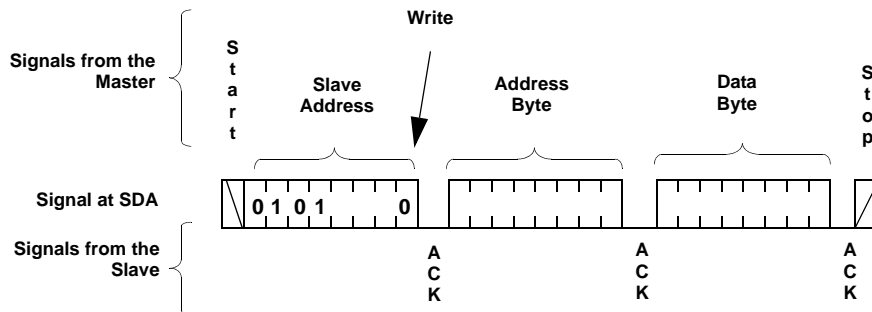
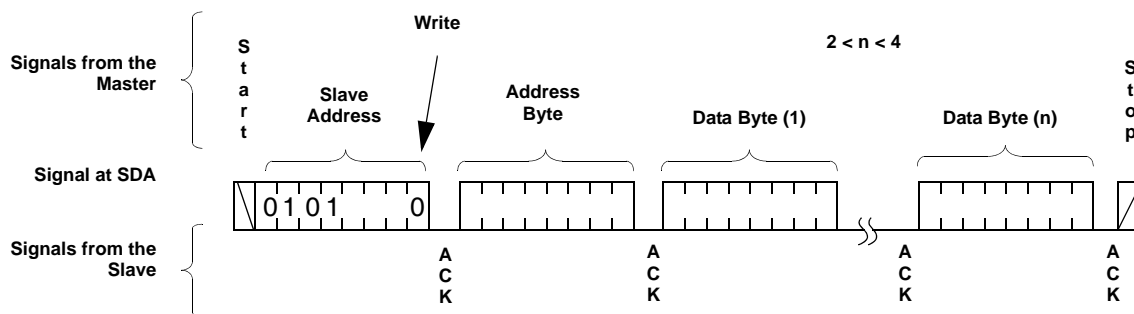

FIGURE 7. BYTE WRITE SEQUENCE
FIGURE 9. PAGE WRITE OPERATION
- Access the desired DR or WCR using a new write or read command** (see Figure 7 for write and Figure 9 for read.)
For any Byte Write operation, the X9455 requires the Slave Address byte, an Address Byte, and a Data Byte (See Figure 7). After each of them, the X9455 responds with an ACK. The master then terminates the transfer by generating a STOP condition. At this time, if the write operation is to a volatile register (WCR, or SR), the X9455 is ready for the next read or write operation. If the write operation is to a nonvolatile register (DR), and the \overline{WP} pin is high, the X9455 begins the internal write cycle to the nonvolatile memory. During the internal nonvolatile write cycle, the X9455 does not respond to any requests from the master. The SDA output is at high impedance.
As stated previously, the memory is organized as a single Status Register (SR), and four pages of four registers each. Each page contains one Data Register for each wiper. Normally a page write operation will be used to efficiently update all four Data Registers and WCR in a single Write command. Note the special sequence for writing to a page: First wiper 0A, then 1B, then 1A, then 0B as shown in Figure 9.
transmit up to 4 bytes (See Figure 9). After the receipt of each byte, the X9455 responds with an ACK, and the internal WCR address is incremented by one. The page address remains constant. When the address reaches the end of the page, it “rolls over” and goes back to the first byte of the same page.